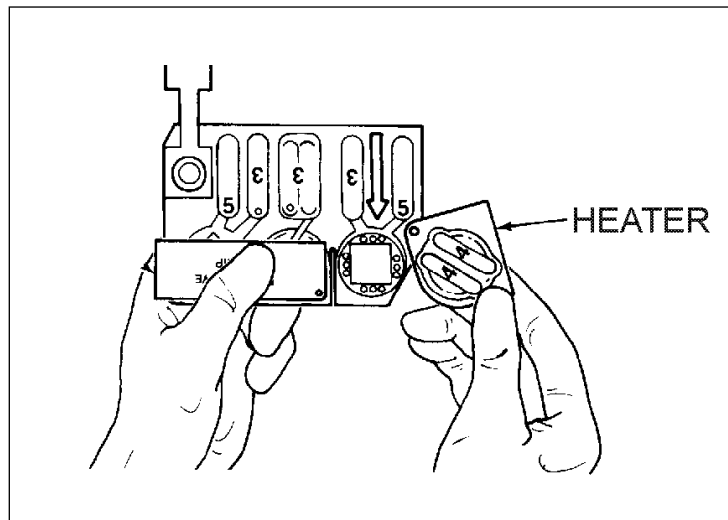

Fig 4-16. Swinging heater ampoules away.
- (10) Put your thumb on the protective strip over the middle of the test spot.
- (11) Swing the heater away from the test spot (fig 4-16).